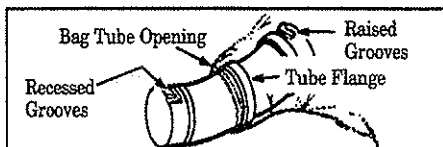

Figure 2
**NOTE:** The end of the Elbow Tube with the recessed Grooves should be inserted through the bag tube opening. See Figure 2.